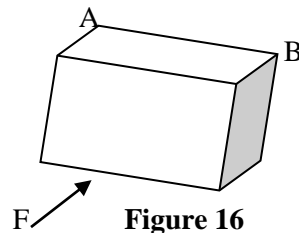

Figure 16
49. Indicate the formula for calculating the hypotenuse of the triangle in figure 16 below.